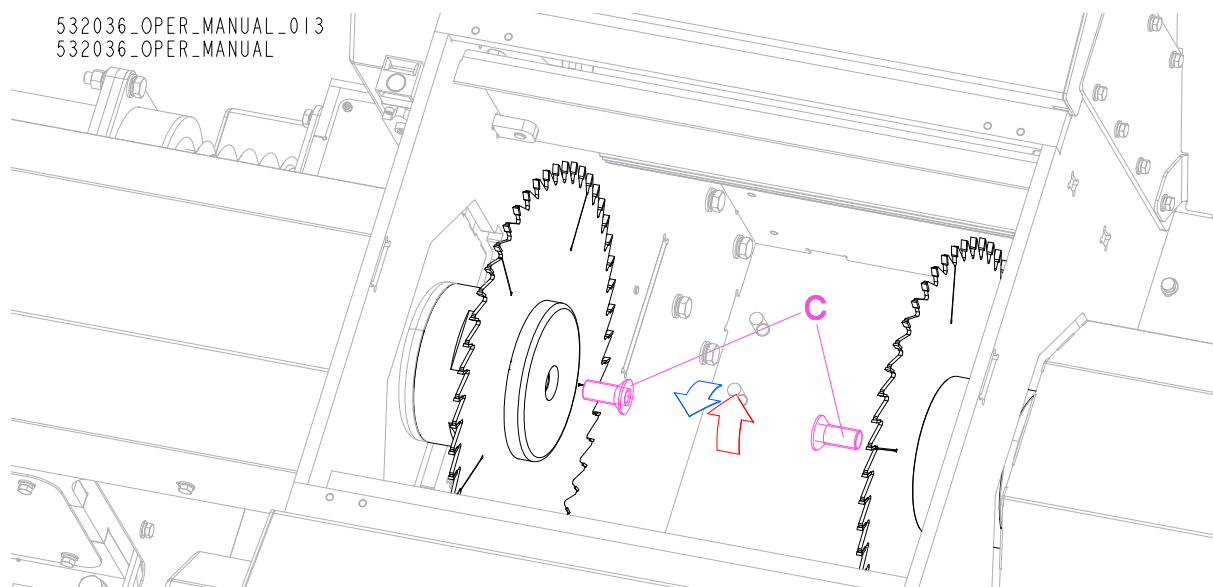

FIG. 4-20
See Figure 4-20.
5. Place the provided wrench (A) on the spacer (B).
6. Use allen wrench to loosen and remove the bolt (C). One of the bolts (C) has right and the other has left thread. Directions of turn to loosen or to tighten them are showed in Fig. 4-20.
7. Remove arbor cap (D) and replace the blade (E).
8. Refit arbor cap (D), mount and tighten allen bolt (C), remove wrench (A)